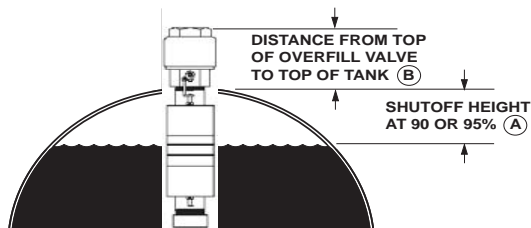
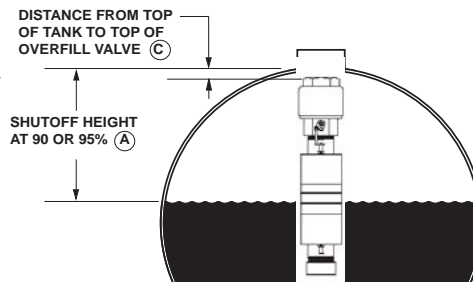

FIGURE 2
FIGURE 3
2. Determine the SHUTOFF HEIGHT at 90 or 95% full. (See Fig. 2 or Fig. 3 below & Mfg. tank ullage chart).
3. If your SHUTOFF HEIGHT is less than 12 inches (for use in gasoline), or less than 13 inches (for use in diesel fuel), then YOU MUST INSTALL THE OVERFILL DEVICE ON A RISER PIPE using Table 2 and Fig. 2 to determine THE DISTANCE FROM THE TOP OF THE OVERFILL VALVE TO THE TOP OF THE TANK .
4. If your SHUTOFF HEIGHT is 12 inches or more (for gasoline use), or 13 inches or more (for diesel use), then use Table 3 and Fig. 3 to determine THE DISTANCE FROM THE TOP OF THE TANK TO THE TOP OF THE OVERFILL VALVE .